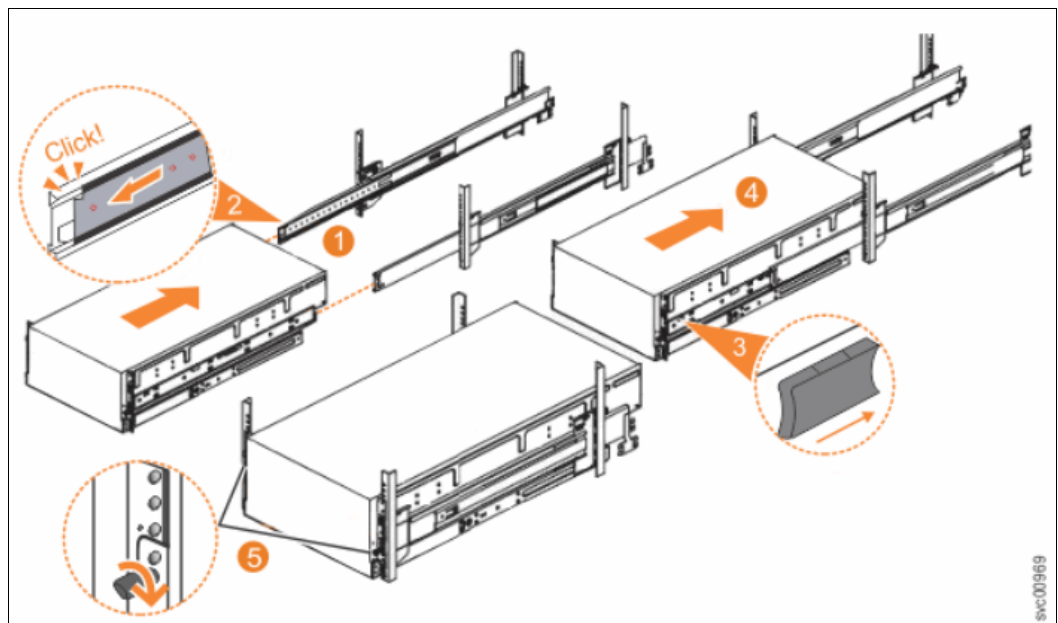

Figure 6-21 Sliding the model A9F expansion enclosure into the rack
- a. Locate the left and right blue release tabs near the front of the enclosure. Press both release tabs forward to unlock the drawer mechanism (**3** in Figure 6-21).
- b. Push the enclosure firmly into the rack (**4** in Figure 6-21).
- c. Tighten the locking thumb screws (**5** in Figure 6-21) to secure the enclosure in the rack.